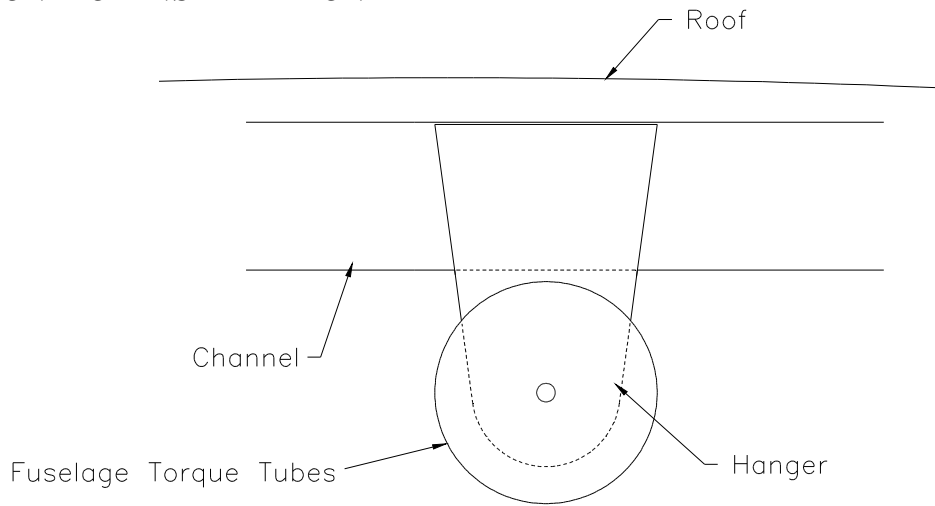

Figure 20.6.7
- 16) Align all torque tubes so that there is no binding at the pivot points. Locate the hanger (CC-78) position on the channel on the roof. Clamp the hanger onto the channel. Figure 20.6.7.